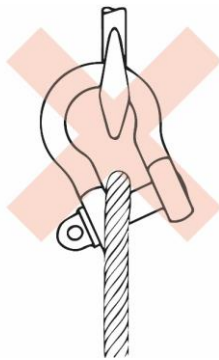

Figure 3
- Avoid applications in which due to movement (for example, the load or the cable ones) the shackle pin can rotate and eventually unscrew (see Figures 3 and 4).